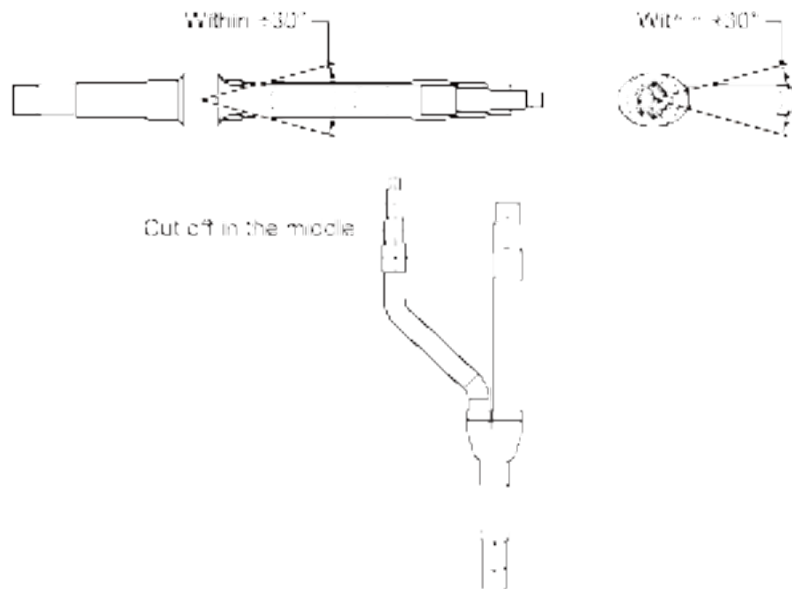

Fig.4.17
- (2) Y-type branch has several pipe sections with different dimension, which facilitates to match with various copper pipes. Use pipe cutter to cut in the middle of the pipe section that is of proper dimension and remove burrs as well. See Fig.4.17.
- (3) Y-type branch must be installed vertically or horizontally.